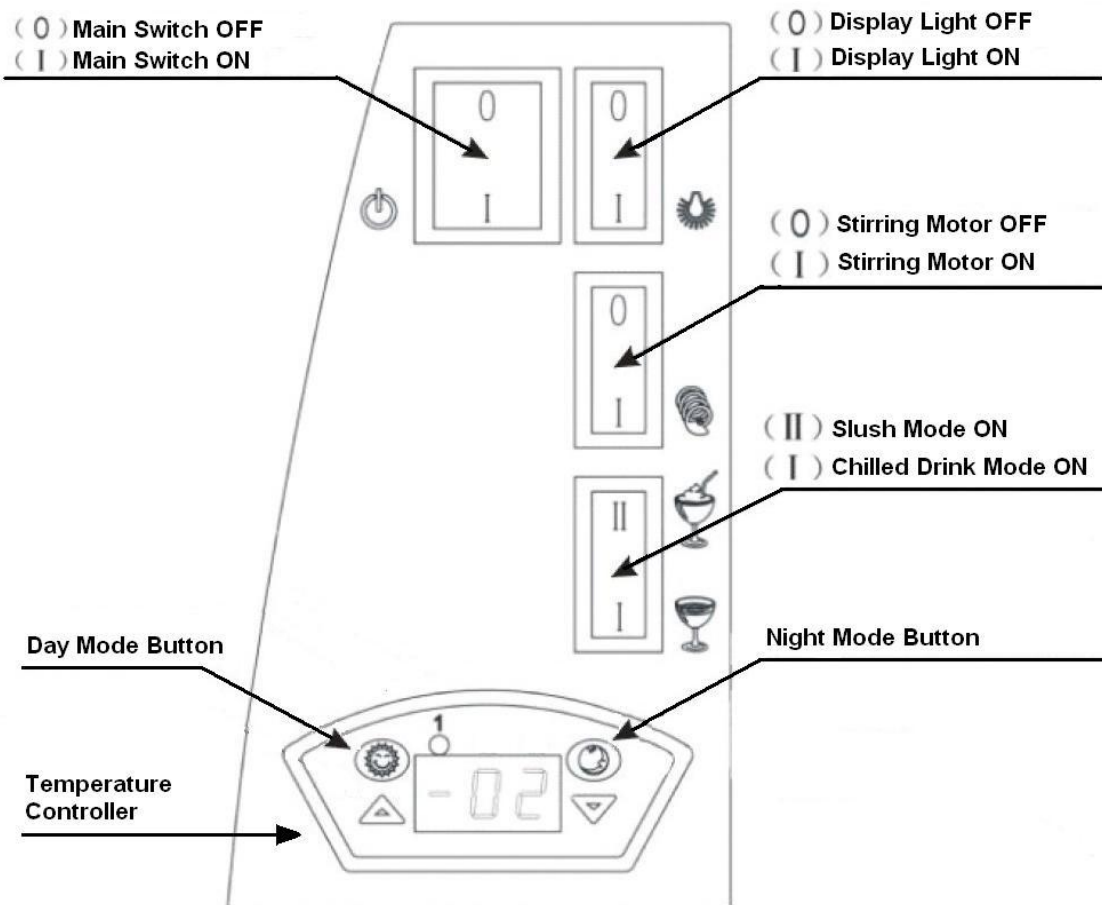

Fig. 1
1. Switch off the main switch (see Fig 1)
1. Turn on the main switch on the side of the dispenser (see Fig 1)
2. Switch the stirring motor to the On position (see Fig 1)
3. Switch controller to Daytime working mode by pressing  on the temperature controller (see Fig 1)
4. Ensure the mode selector switch is set to Slush setting  (see Fig 1)
4. Ensure the mode selector switch is set to the Chilled Drink setting  (see Fig 1)
The LED display lighting can be switched ON/OFF by pressing the  button (see Fig 1)